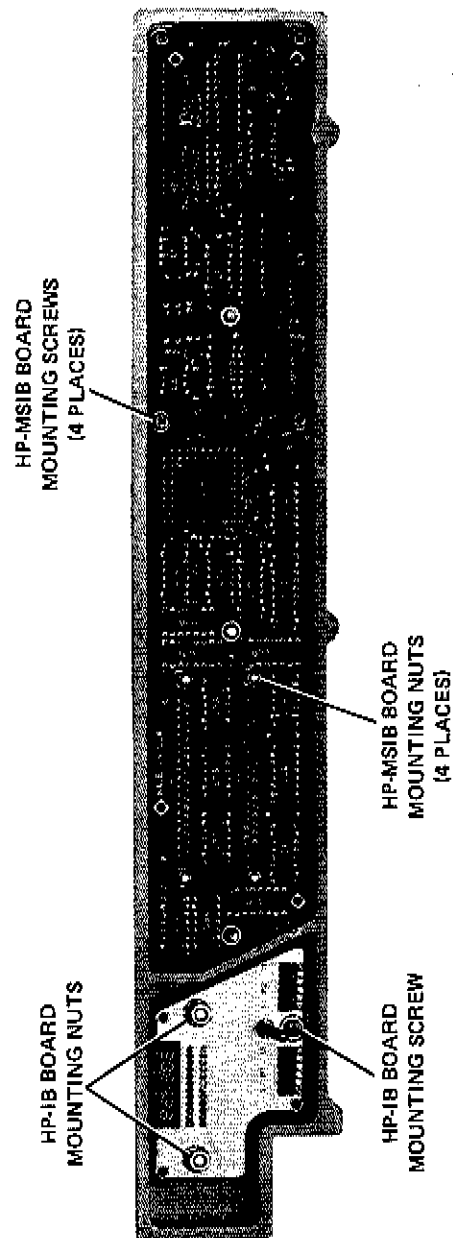

Figure 4. HP-IB and HP-MSIB Boards
1. Turn instrument OFF (0).
3. The HP-MSIB board is attached to the HP-MSIB cover. Remove the three screws and the four nuts. (The nuts around the HP-MSIB connectors are M5.5, the connectors on the back side are M5. See Figure 4.)
3. Remove the two nuts (nuts and connector are both M7) and lift HP-IB board off cover. See Figure 4.